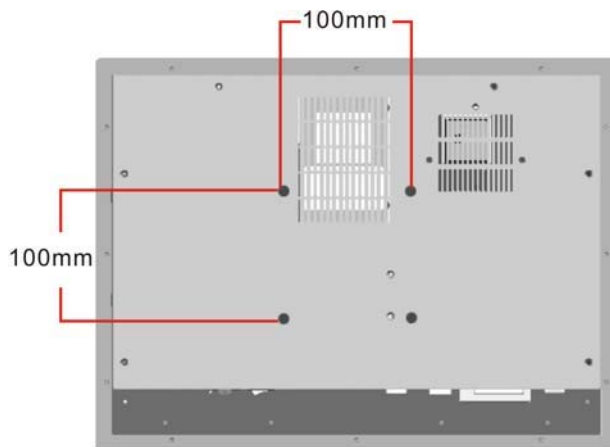

Figure 3-17: Arm Mount Retention Screw Holes
Step 3: Align the retention screw holes on the mounting arm interface with those in the 2901280 flat panel PC. The 2901280 flat panel PC arm mount retention screw holes are shown in **Figure 3-17**.